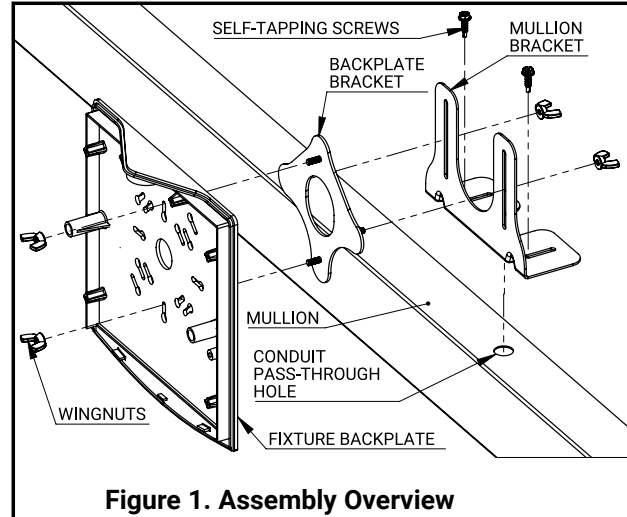

Figure 1. Assembly Overview
- Ensure your product is compatible with the mullion adapter. A standard installation is shown in Figure 1. The adapter will mate with most products that have a standard 4" junction box hole pattern.